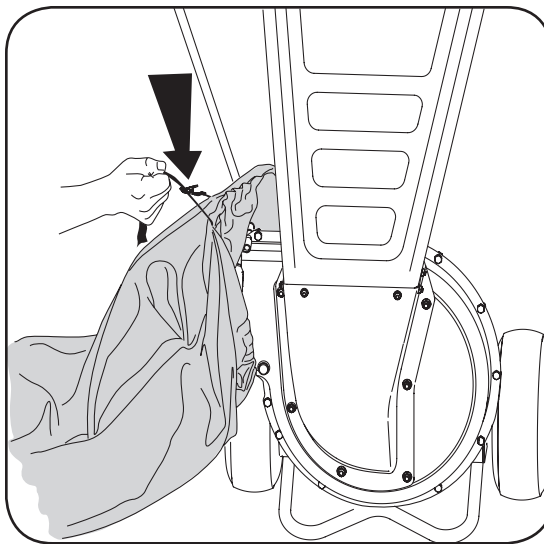

Figure 4-1
2. Squeeze the locking buckle to release the bag's drawstrap before loosening it from the chute deflector. See Figure 4-1.